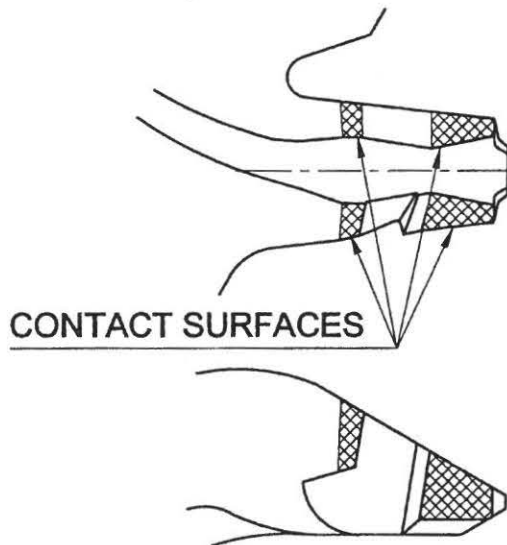

Figure 10.1
2. **Weld and grind contact surfaces.** (figure 10.1) Before performing any welding thoroughly preheat the adapter nose till 200°C. Only weld and grind the 4 upper contact-surfaces in order to get a tight fitting again. DO NOT weld the bottom surface because this is used as reference face.